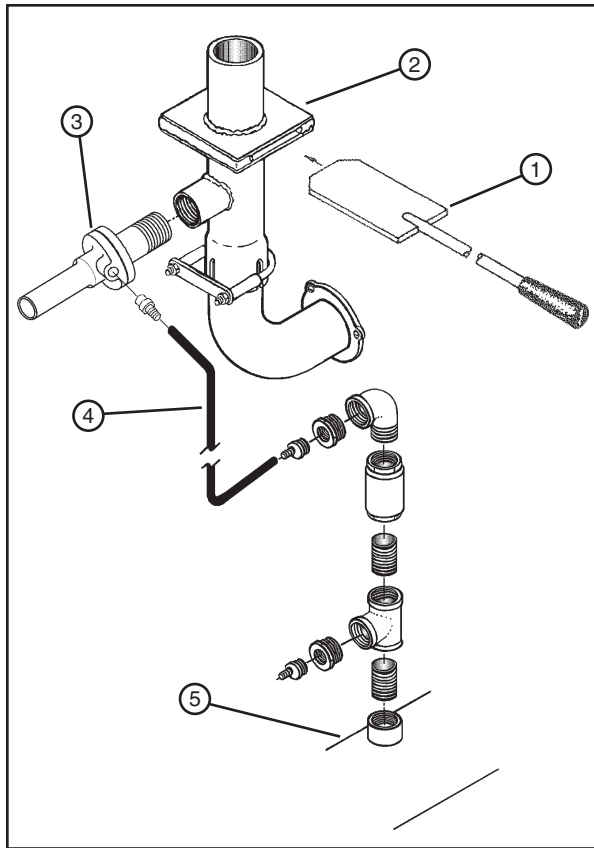

Figure 64-1 1. Primer Slide
The exhaust primer is used for priming of pump installations with suction inlets in an Engine Generator Pump Application. See figure 64-1.
2. Start the engine and insert the primer slide into the primer assembly, diverting exhaust to the exhaust primer. See figures 64-1.